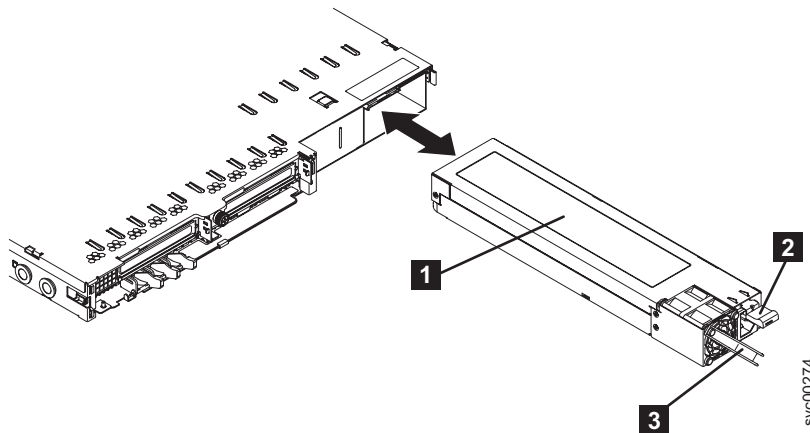

Figure 158. SAN Volume Controller 2145-8G4 power supply
1. Grasp the handle on the rear of the power supply (shown in Figure 158) and slide the power supply forward fully into the node until it clicks in place.